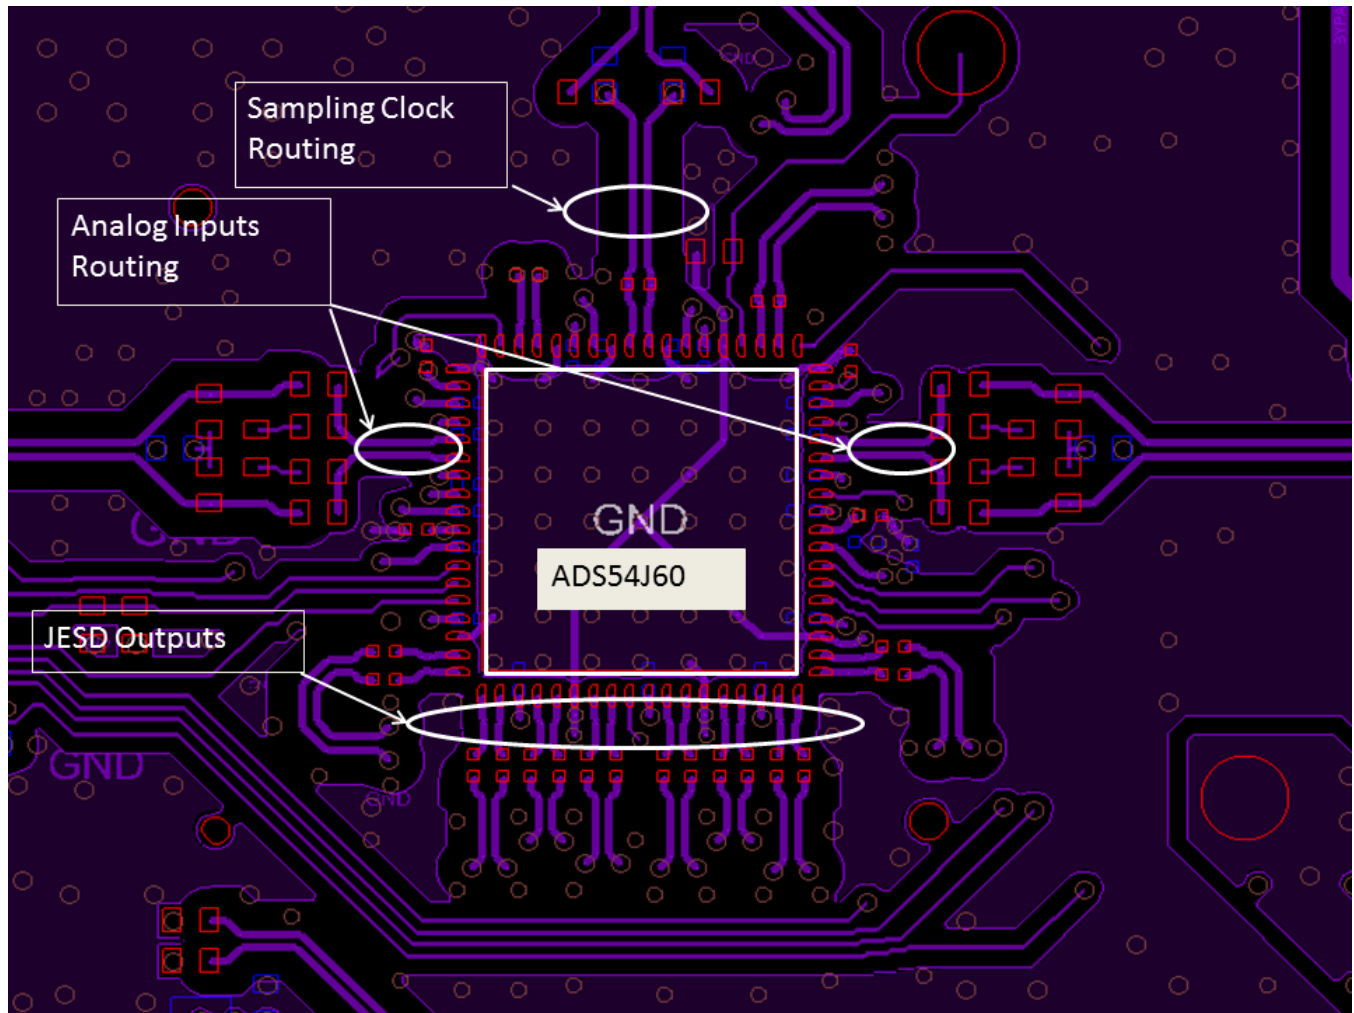

Figure 155. ADS54J60 EVM layout
The device evaluation module (EVM) layout can be used as a reference layout to obtain the best performance. A layout diagram of the EVM top layer is provided in Figure 155. A complete layout of the EVM is available at the ADS54J60 EVM folder. Some important points to remember during board layout are:
- Analog inputs are located on opposite sides of the device pinout to ensure minimum crosstalk on the package level. To minimize crosstalk onboard, the analog inputs must exit the pinout in opposite directions, as illustrated in the reference layout of Figure 155 as much as possible.
- In the device pinout, the sampling clock is located on a side perpendicular to the analog inputs in order to minimize coupling between them. This configuration is also maintained on the reference layout of Figure 155 as much as possible.